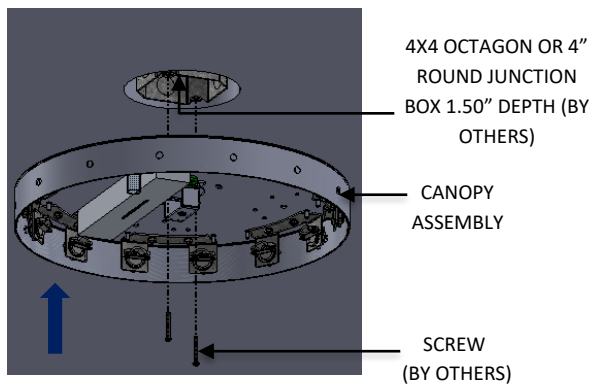
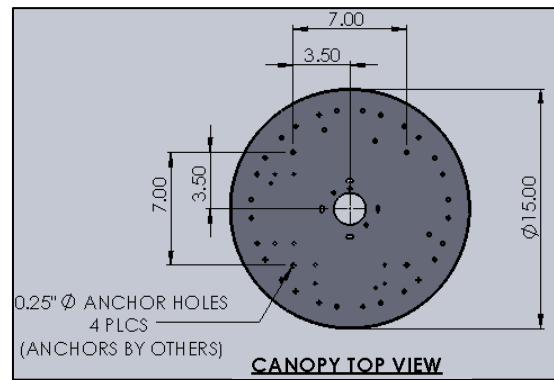

FIG. 8 – CANOPY ASSEMBLY INSTALLATION TO J-BOX (BY OTHERS)
FIG. 9 – DETAIL SHOWING ANCHOR LOCATIONS
2. Attach CANOPY to JUNCTION BOX (by other) with SCREWS provided (by others) as shown below in FIG. 8. If additional mounting points are required, SEE DETAIL SHOWING ANCHOR LOCATIONS below for anchor hole locations. Anchor Bodies and anchor screws by others.as shown in FIG. 9.